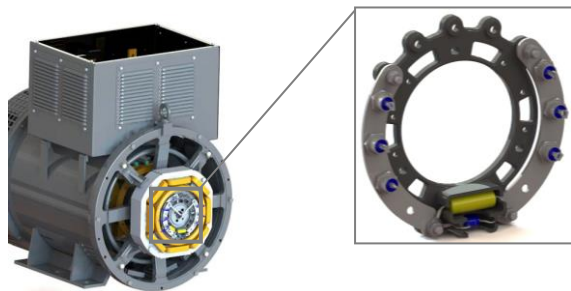

Figure 14.19: Diodes wheel
- Remove the diodes wheel, according to Figure 14.19.